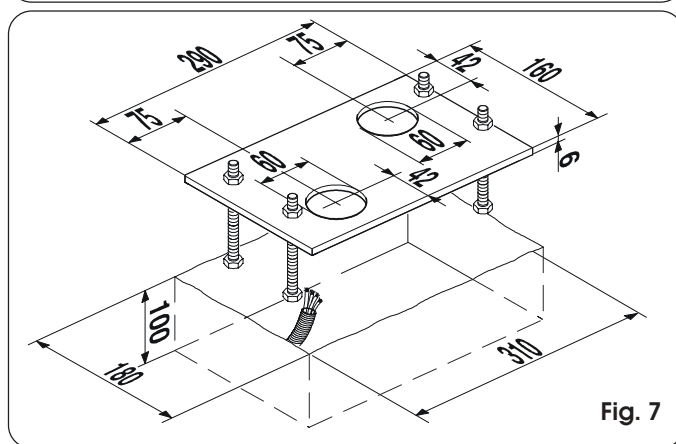

Fig. 7
- 3) Prepare a foundation plinth as shown in fig.7 and wall the foundation plate, supplying one or more sheaths for routing electric cables. Using a spirit level, check if the plate is perfectly level. Wait for the cement to set.